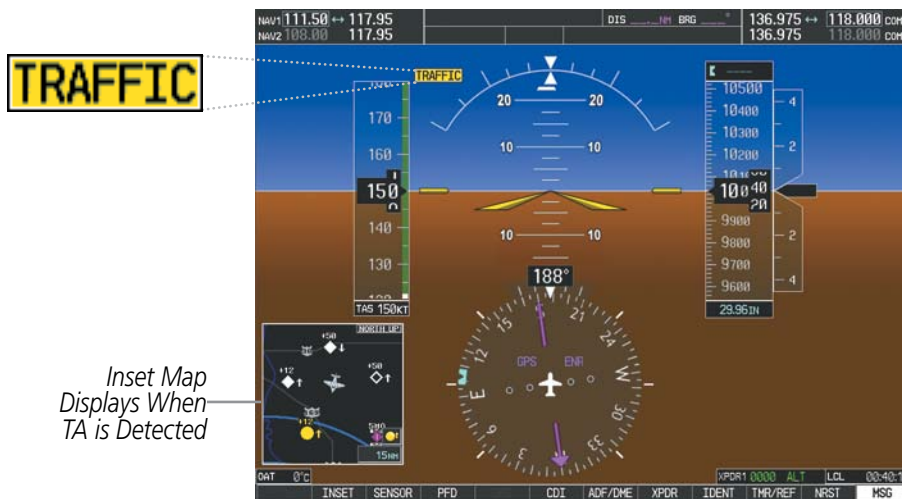

Figure 6-168 Traffic Annunciation (PFD)
- A TRAFFIC Annunciation appears at the top right of the airspeed on the PFD, flashing for five seconds and remains displayed until no TAs are detected in the area (Figure 6-168).